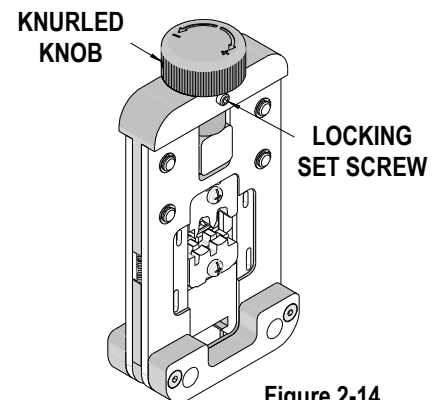

Figure 2-14
1. Loosen the locking set screw located just below the knurled knob at the top of the Power Crimp Head. See Figure 2-14.